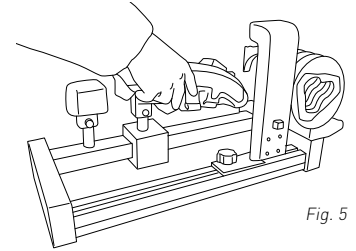

Fig. 5
- *1. Loosen the shoe as far as possible and insert it on the support starting from the toe and then attaching the heel. At this point, make sure that the heel adheres correctly to the support and whilst applying pressure to this push forward the tip **(Fig. 5)**. To reduce any lateral movement of the shoe, tighten the shoe with your own tie-up system.